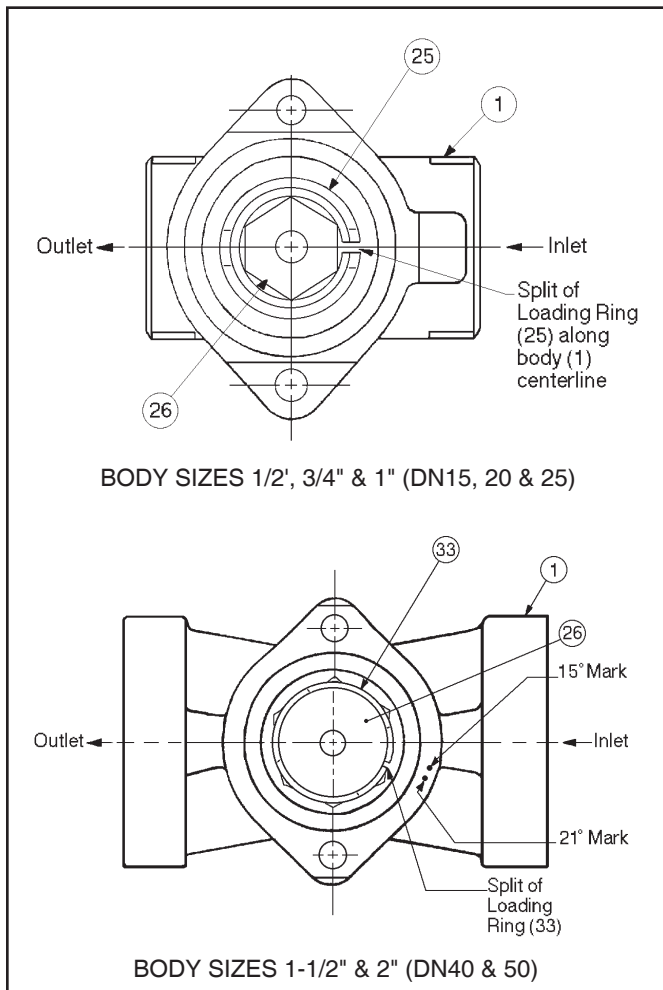

Figure 4
5. Return to the body (1) in vise. Observe position of “split” in loading ring (25, 33) with respect to proper location as indicated in Figure 4. Using both thumbs, push the interior walls to pry apart the split of the loading ring (25, 33), until the ring (25, 33) slips off the orifice (26). Remove the loading ring (25, 33).
6. Remove the body (1) from the vise. Clean the gasket (8) recess of the body (1) with a flat tool. Solvent clean body (1). Replace body (1) into vise.
7. Examine orifice (26) for damage to the seating edge. Replace orifice (26) if damaged. To remove orifice (26), place a socket over the orifice (26) hex, and rotate CCW to loosen/ remove. When replacing orifice (26) use pipe sealant PLS-2 or PST Loctite. Rotate CW to tighten orifice (26); tighten to 35–40 ft-# (47.4–54.2 N-M). **NOTE:** *Do not replace orifice (26) without replacing seat (27).*
- 8a. Examine glass-filled nylon loading ring (25) for sizes 1/2" through 1" (DN15 through 25). This piece may wear “notches” at the location where the loading ring (25) touches the orifice (26) “hex points”. It is necessary that the loading ring (25) be “clamped snugly” to the orifice (26); replace loading ring (25) if fit is loose.
- 8b. Examine SST loading ring (33) for sizes 1-1/2" and 2" (DN40 & 50). Assure that the three impression points (2 rectangular, 1 circular) are still present; if an impression point is missing, replace loading ring (33). It is necessary that the loading ring (33) “clamp snugly” to the orifice (26) to prevent rotation; replace loading ring (33) if fit is loose.
9. Refer to Figure 4 for proper alignment of loading ring (25, 33) split. Using both thumbs, push the interior walls of the loading ring (25, 33) apart and lower the loading ring (25, 33) down into the body (1) cavity, and over the orifice (26). Release thumbs. Assure loading ring (25, 33) “clamps snugly”. Repeat until loading ring (25, 33) is properly located per Figure 4. The “split” of the loading ring (25) is factory assembled along the body (1) axial centerline for body sizes 1/2" - 1" (DN15 - 25), and for loading ring (33) at the 21° mark on the body (1) for body sizes 1-1/2" and 2" (DN40 & 50). For all body sizes the “split” in the loading ring (25, 33) is located opposite the flow direction.
10. Place gasket (8) into body (1) recess.
11. Reposition actuator assembly (AA) into position by hand, aligning body (1) bolt holes with bolt holes in lower case (3). Insert two cap screws (11) and finger tighten in an alternating cross pattern.
12. Wrench tighten cap screws (11) in an alternating cross pattern to a torque of 8–10 ft.-# (10.8–13.5N-M).